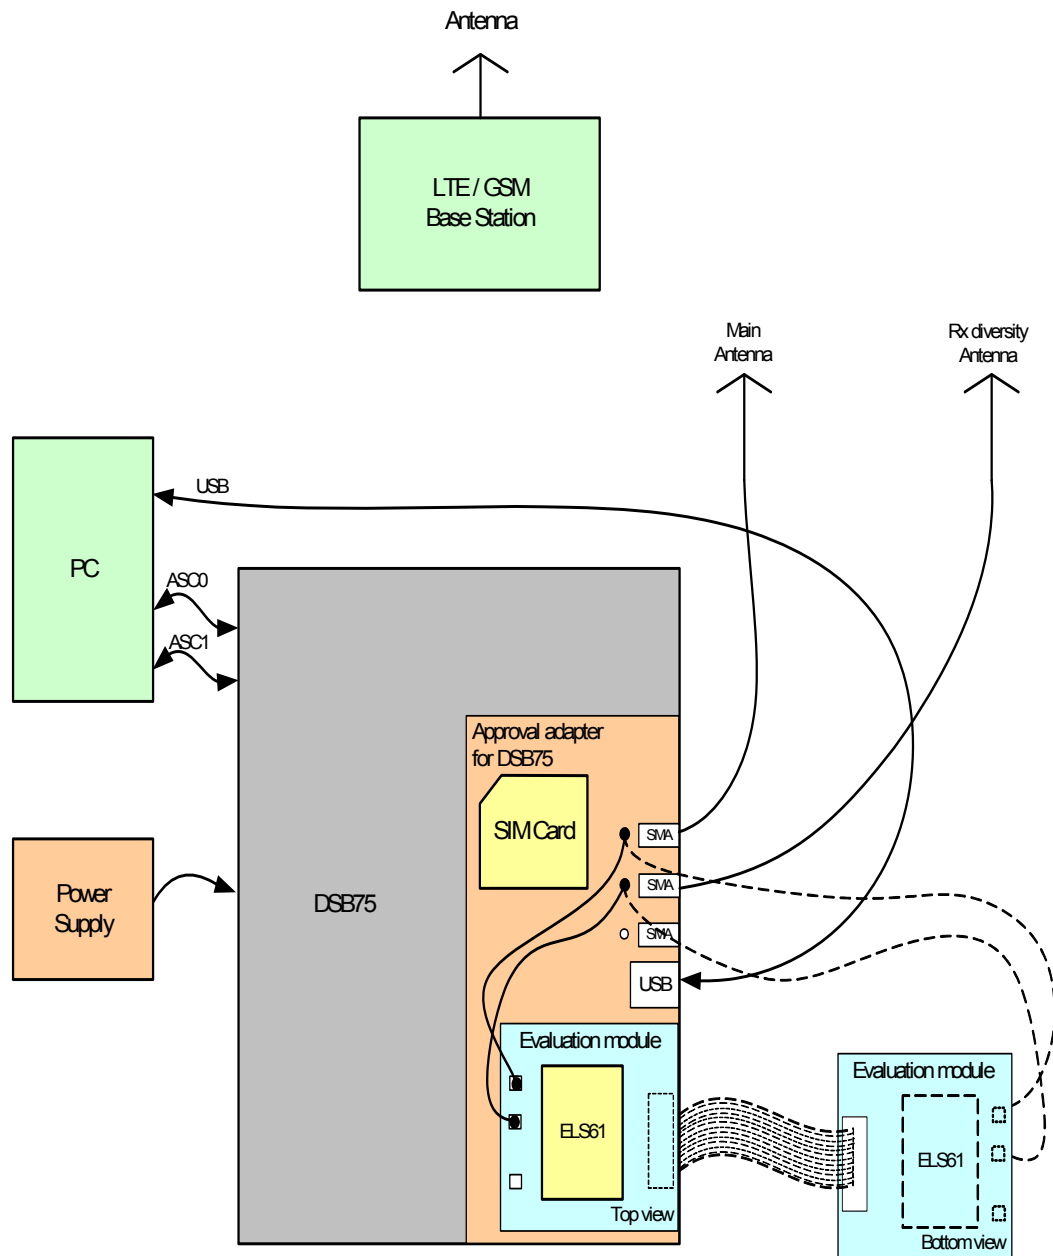

Figure 55: Reference equipment for Type Approval
1. For RF performance tests a mini-SMT/U.FL to SMA adapter with attached 6dB coaxial attenuator is chosen to connect the evaluation module directly to the GSM test equipment instead of employing the SMA antenna connectors on the ELS61-E-DSB75 adapter as shown in Figure 55. The following products are recommended: